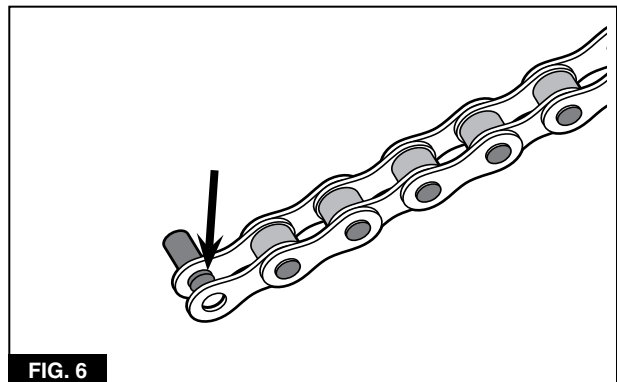

FIG. 6
b. Stand behind the derailleur, and check the position of the guide pulley. The pulley should align with the largest cog as shown in **Figure 6**.
Press the rivet the minimum distance needed to separate the chain and stop. Do not drive the rivet completely from the inner plate on the inboard side of the chain. The chain can be separated once the rivet extends 0.5 to 1.0 mm into the inside of the inner chain plate. See **Figure 6**.